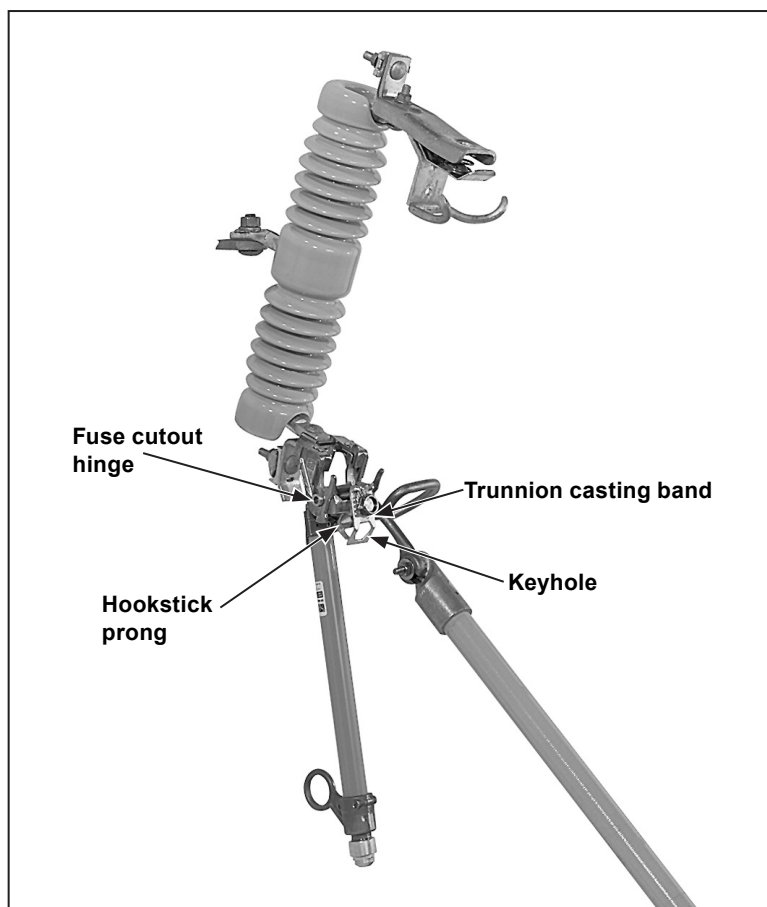

Figure 3. Installing the fuse tube.
**Step 2** Guide the fuse tube into the fuse cutout hinge as shown in Figure 3 and disengage the hookstick.
Following an opening operation using Loadbuster, the fuse tube can be lifted out of the fuse cutout hinge using the prong of a hookstick. See Figure 3 on page 9.